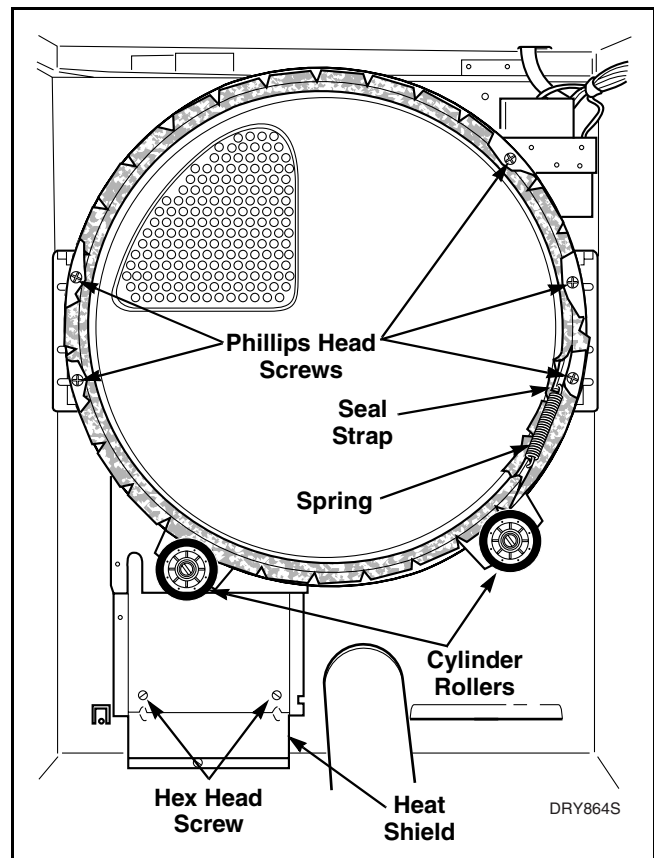

Figure 29
- e. Remove two hex head screws holding heater box to heat shield. Refer to *Figure 29*.
- f. Remove one Phillips head screw holding rear bulkhead to terminal block bracket. While supporting bulkhead, remove the four Phillips head screws holding rear bulkhead to mounting brackets. Refer to *Figure 29*. Then lift complete assembly out of dryer.
- f. Remove one Phillips head screw holding rear bulkhead to terminal block bracket. While supporting bulkhead, remove the four Phillips head screws holding rear bulkhead to mounting brackets, then lift complete assembly out of dryer. Refer to *Figure 29*.
- l. Remove two hex head screws holding heater box to heat shield. Refer to *Figure 29*.
- m. Remove one Phillips head screw holding rear bulkhead to terminal block bracket. While supporting bulkhead, remove the four Phillips head screws holding rear bulkhead to mounting brackets, then lift complete assembly out of dryer. Refer to *Figure 29*.